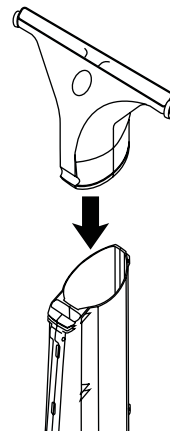

Fig. 20
2. Place the round opening of the patio head into the round vacuum opening (Fig. 20).